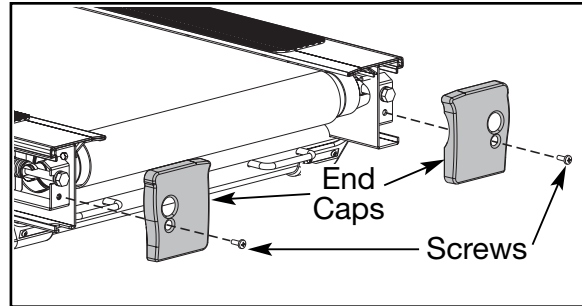

Figure 4
- A. Using a Phillips head screwdriver, remove the screw that holds each end cap in place. See Figure 4.